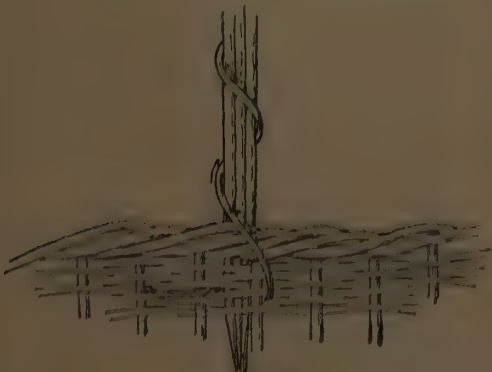

FIG. 18
7. For the handle, cut three pieces of No. 5 reed, 18 inches long. Sharpen both ends of these reeds. Hold the three pieces together as one reed, and push the ends down into the weaving on opposite sides of the basket. If you find this very difficult, put one reed in at a time, but be sure to have the three ends in at the same place, at the left of a spoke. (See Fig. 18.)
Fig. 18 indicates how the handle spokes are inserted and are to be wrapped. The arrows show the direction of the weaver as it is wrapped around the spokes.